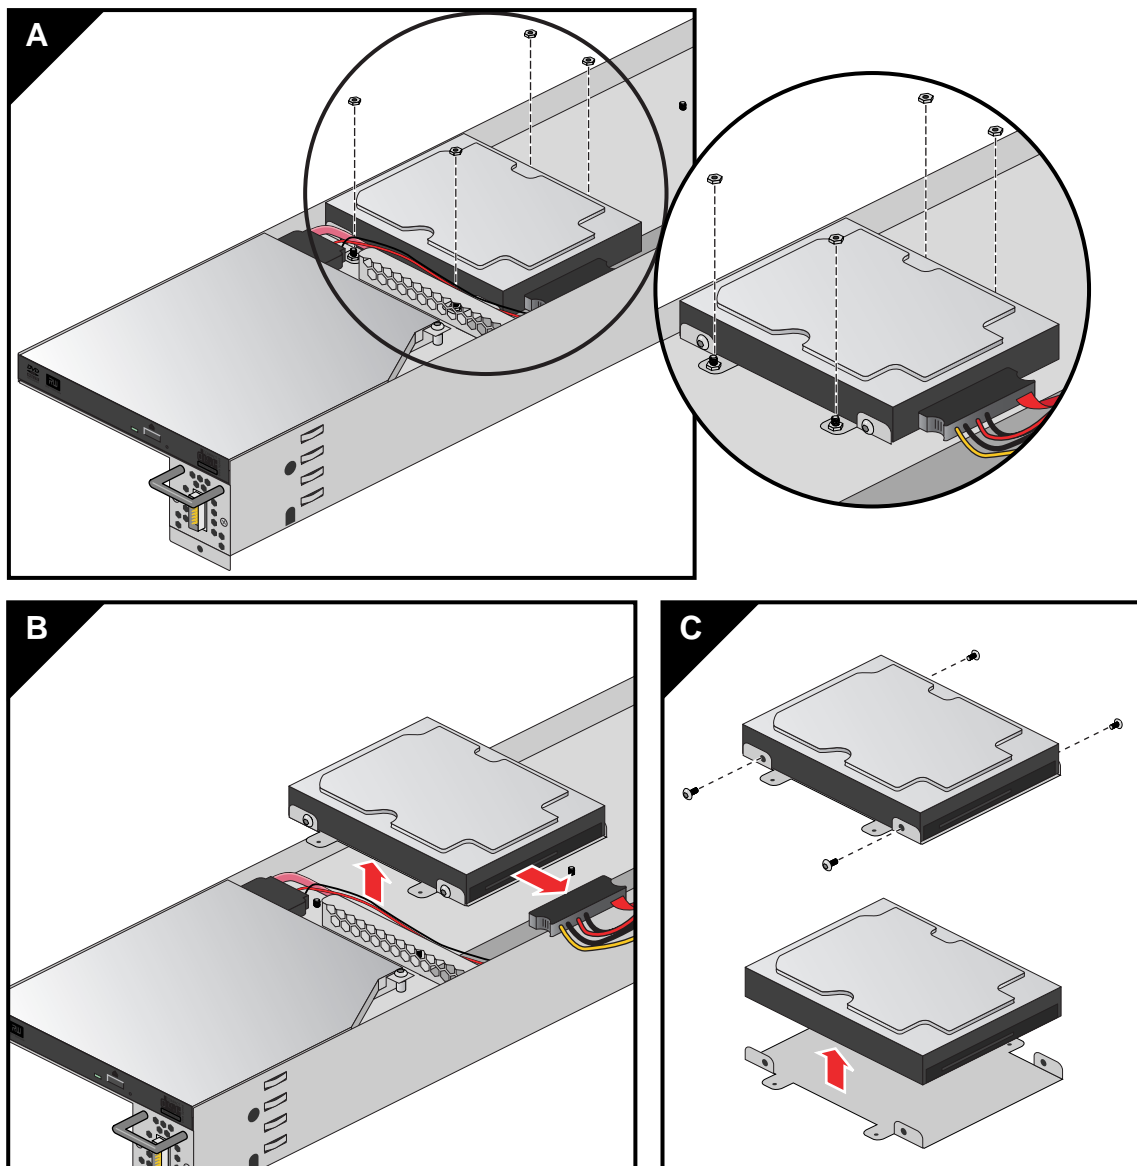

Figure 5-10 Hard Disk Drive Remove Example
8. If replacing an existing hard disk drive, undo the four 7/32-inch (5.56 mm) locking nuts holding it to the drive tray; then unplug the power/data cable and extract the drive. See Figure 5-10 on page 70 for an example.